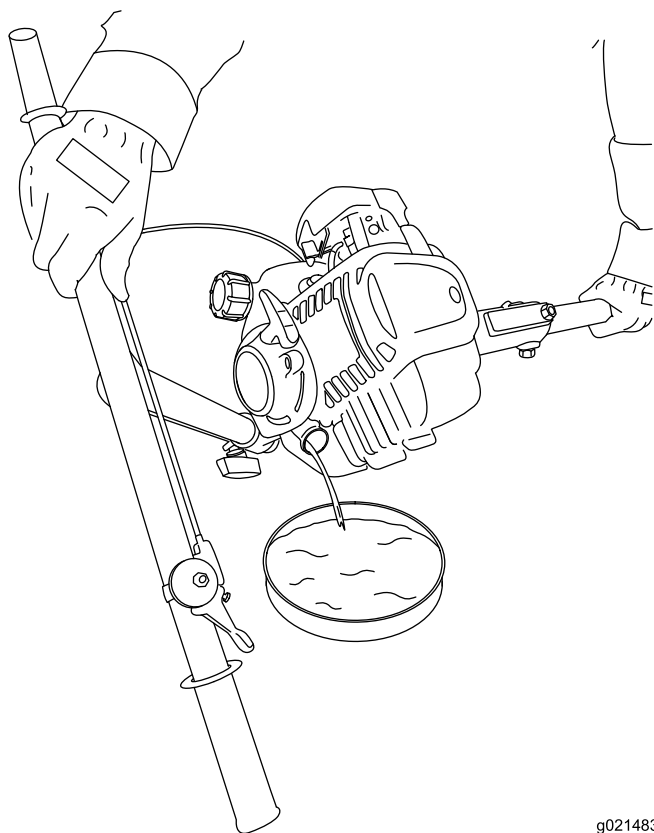

Figure 26
5. With a firm grip on the handlebars and the shaft of the machine, pour the oil into the pan (Figure 26).
6. When the oil has drained completely, install the oil cap, and wipe up any spilled oil (Figure 26).